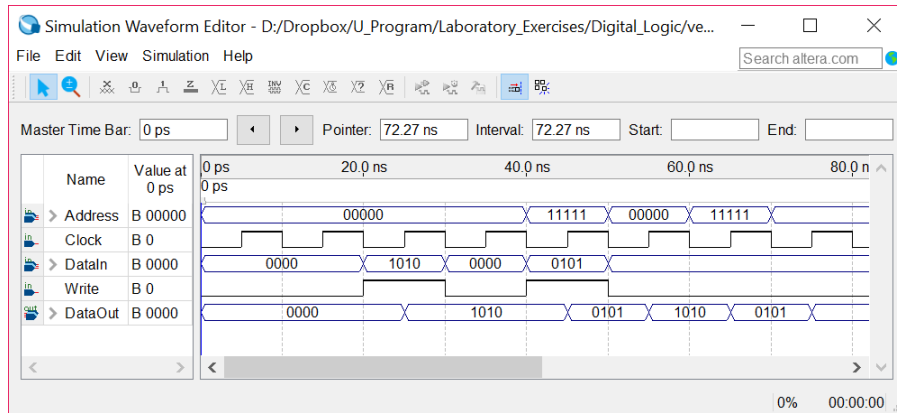

Figure 4: An example of simulation output.
5. Simulate the behavior of your circuit and ensure that you can read and write data in the memory. An example simulation output is given in Figure 4.